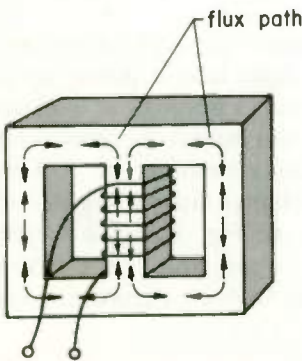
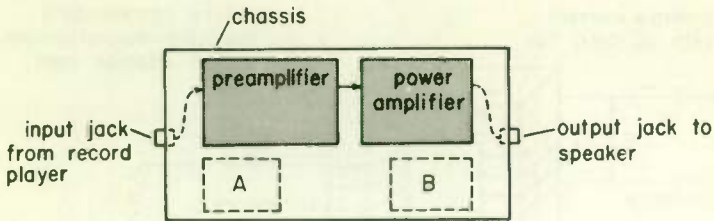

Fig. 35 Construction of an iron-core choke.
Fig. 39
Figure 35 shows the construction of a low-frequency choke coil using a laminated iron core. Notice that the flux paths leave the top of the coil and travel through the two sides of the core and finally join again at the
the toroid is not laminated like the choke core in Fig. 35, but the material used to make the core, powdered iron adhered together by an insulating binding material, has a high resistance, so there is little effect from eddy currents.
- Figure 39 shows a chassis layout for a high-fi amplifier for a record player. You wish to mount a choke coil for a power supply on the chassis. The choke is similar to the one shown in Fig. 35. Which position on the chassis would be a better location for the choke? (*position A*)(*position B*) Why?